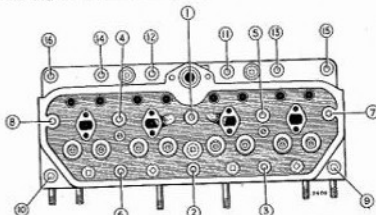

Fig. B.4. Cylinder head nut tightening sequence
Reference to Fig. B.4 will show that the majority of the cylinder head nuts are obscured by the rocker cover and therefore to effect the operation of tightening the nuts successfully the rocker cover must be removed as described under "To Adjust the Valve Clearances", paras. 1 to 4 inclusive. Proceed then as follows:
1. With the engine hot, tighten the nuts in the correct sequence as shown in Fig. B.4 to a torque wrench reading of 56/60 lb. ft. (7.74/8.30 kg. m.).